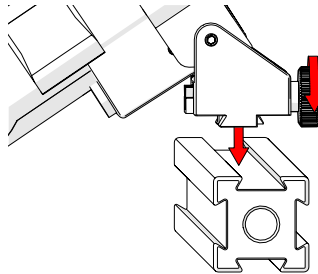

Fig. 134 - Mount on frame bar
1. Loosen the battery powered optical guide knob (Fig. 134) and mount the optical guide to the frame bar.